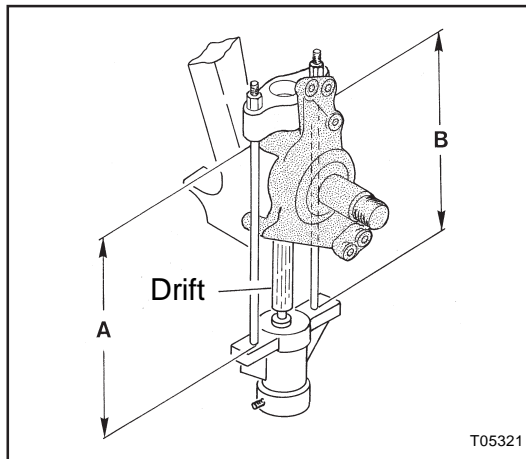

**Figure 17: Press tool**
9. Use the portable press of Figure 17 to free king-pin (8) from its fit in the steering knuckle carrier. Attach the press tool as indicated in figure 18. Position the drift (see figure 18) on top of the press. Tighten the nuts of the press tool so that the dimension A is equal to B. Press out the king-pin.